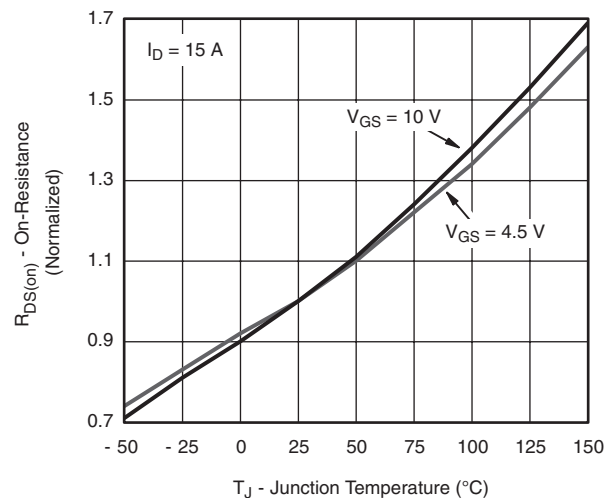

Fig. 2
- B. RK = increase in $R_{DS(on)}$ factor with respect to temperature (normally 1.6 to 1.8) (fig. 2).